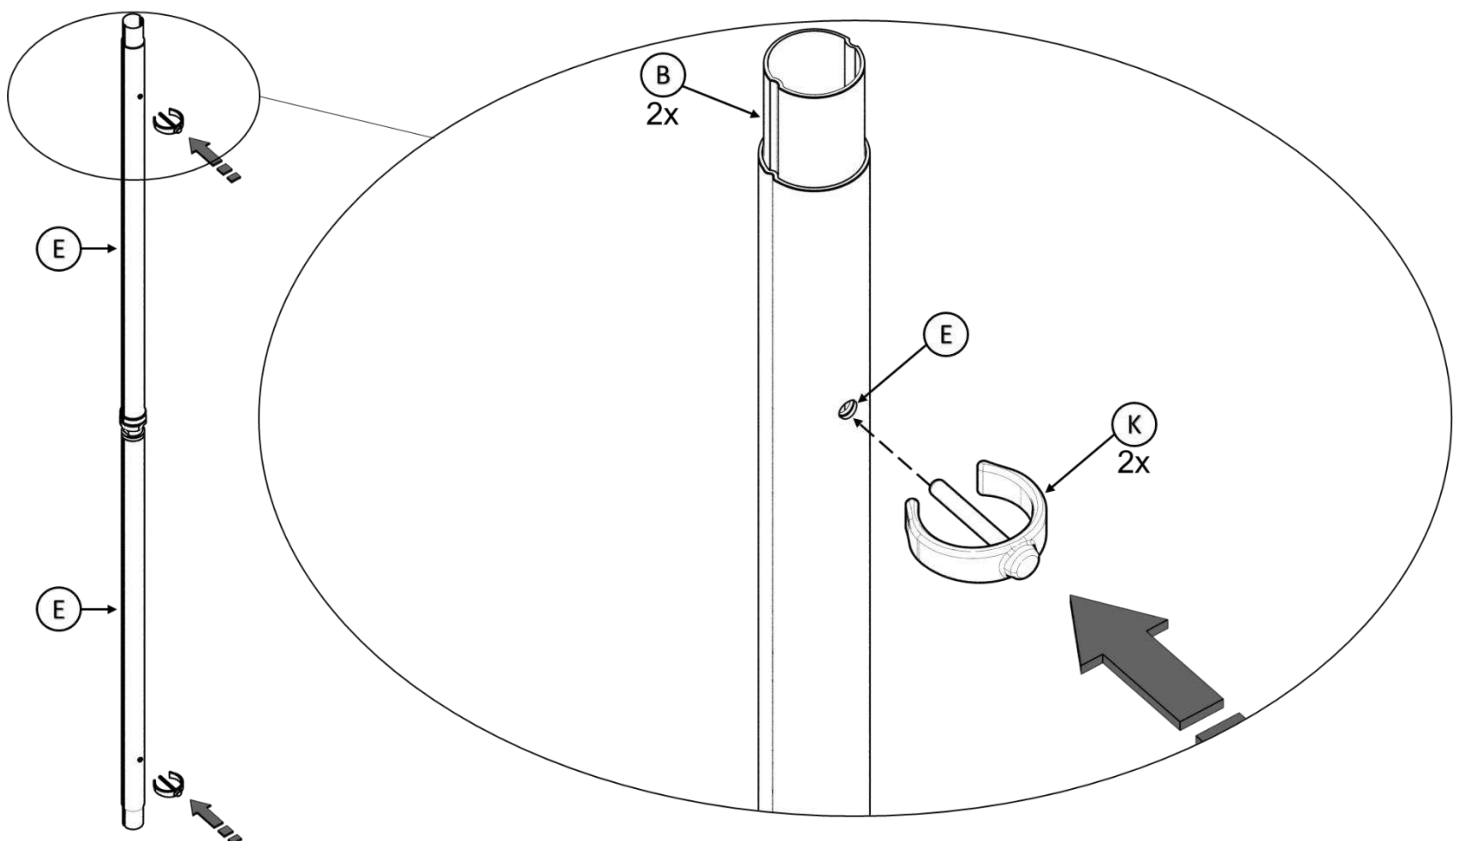

FIGURE 4
4. Insert **B** into **E** and align the appropriate hole in **B** with the hole in **E** as shown in *FIGURE 4*. Secure by pressing **K** through both.